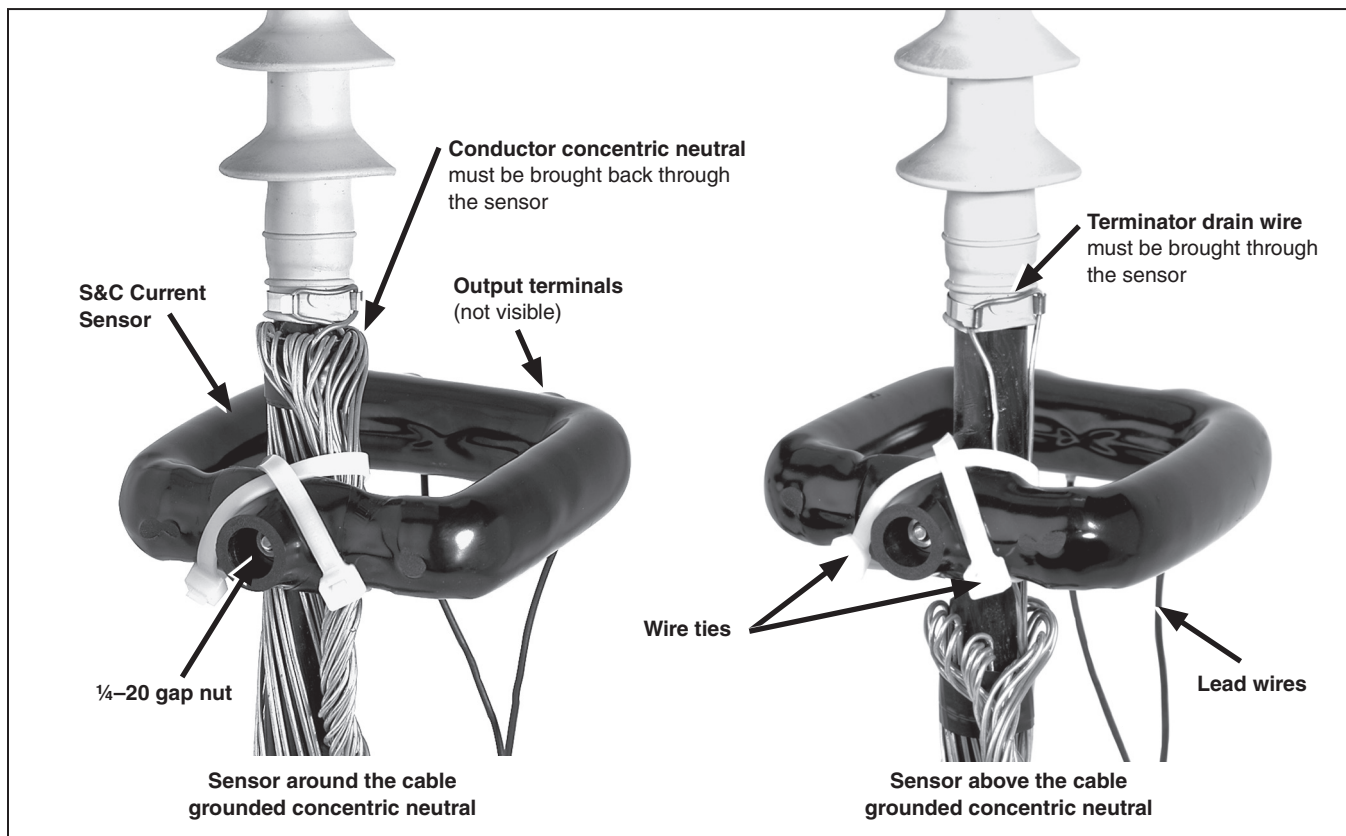

Figure 10. The typical method for attaching an S&C Current Sensor to high-voltage cable.
- Secure the current sensor to the high-voltage cable at a point below the cable terminator or stress cone using the plastic wire ties furnished. See Figure 10. The current sensor may be placed against the cable grounded concentric neutral and the concentric neutral must be brought back through the sensor or it may be placed against the cable semiconducting jacket and the terminator drain wire must be brought through the sensor.